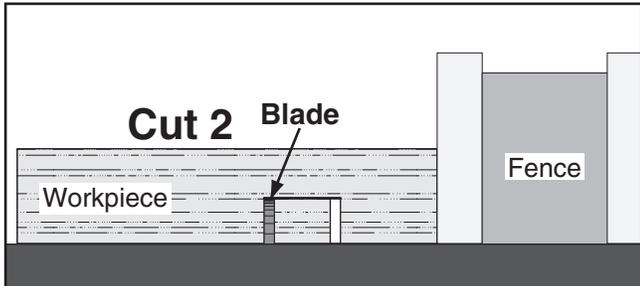

Figure 65. Second cut for a single blade dado.
7. Repeat the cutting operation on the other side of the dado channel, as in **Figure 65**.